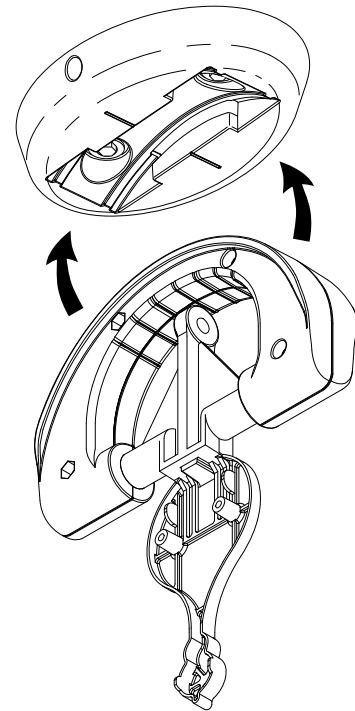

Figure 11
3. Install the blade holder assembly by rotating it into place through the slot of the base. **Figure 11**